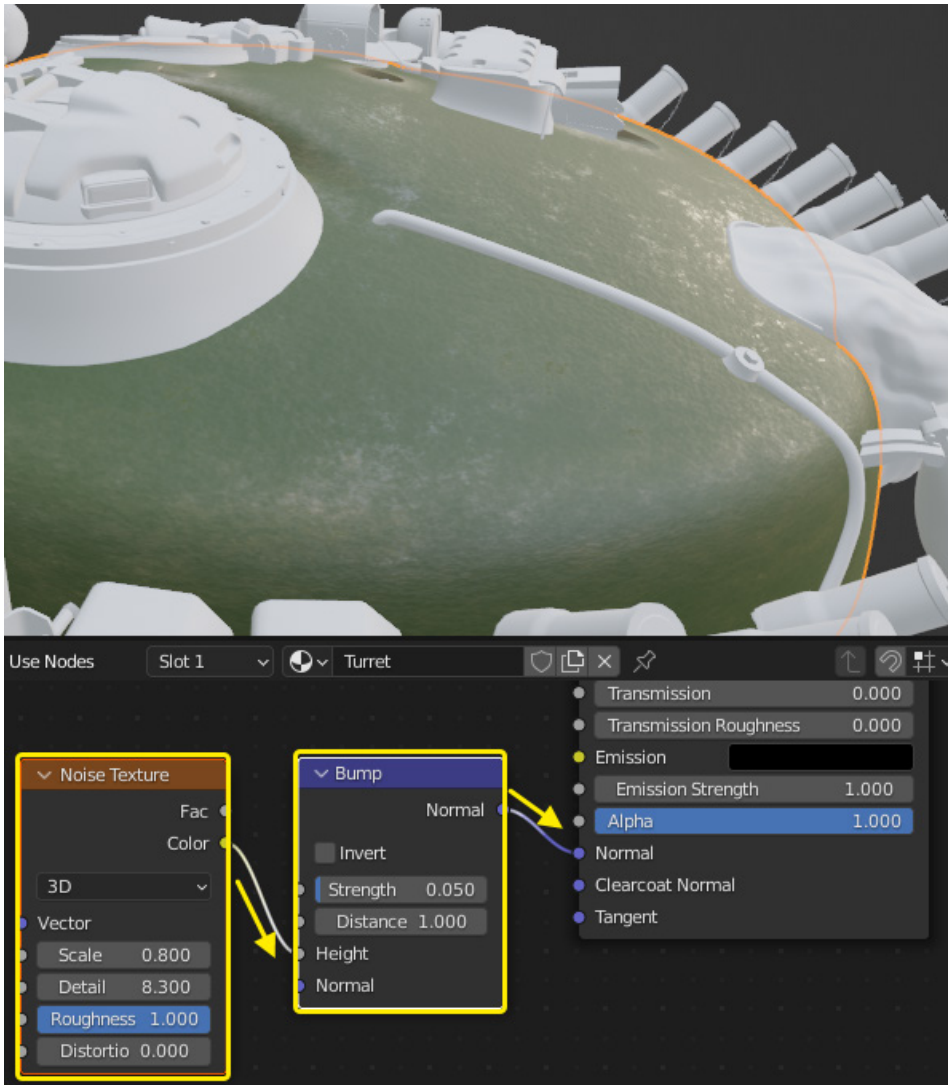

Figure 12.15 – Bump map
7. Add a **Noise Texture** node and a **Bump** node with settings like in *Figure 12.15*, and plug them into the **Normal** input of the **Principled BSDF** node.